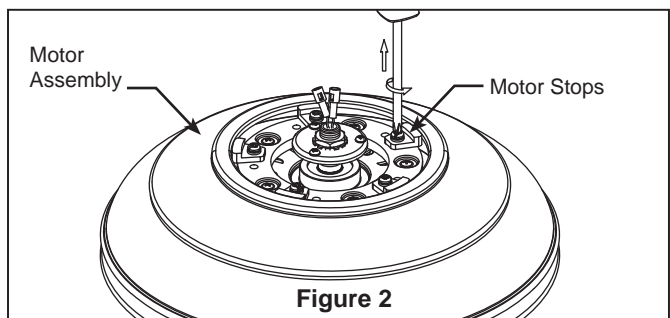

Figure 2
2. Remove one of the two screws in the adapter-switch housing assembly and retain the screw. Slightly loosen the other screw. (Figure 2)
- 2.** Restore electrical power to the outlet box by turning the electricity on at the main fuse box. (Figure 2)